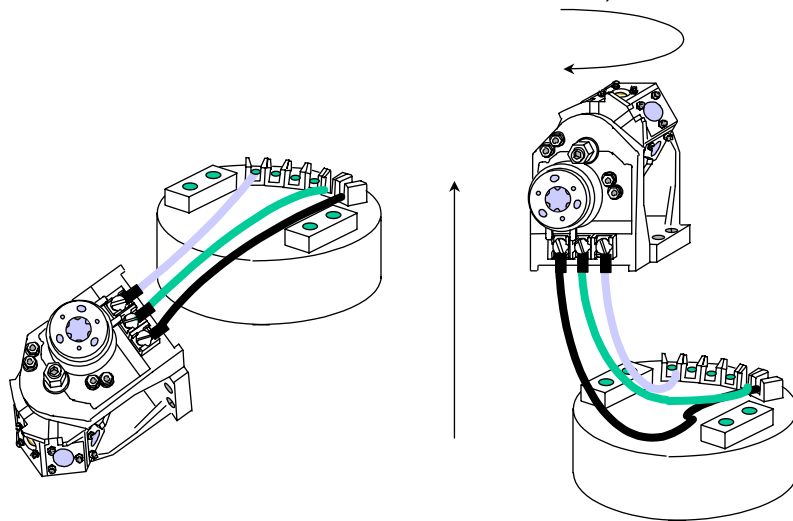

Figure 4-7
- c. Run the wires across the flasher and install the other end of the WK-681 wiring kit to the flasher's terminals *from the inside*, as shown in Figure 4-7. Then turn the lampchanger 180 degrees as you place it on the flasher so that the terminals are opposite each other with the wires under the bracket (note: the wires must pass through the 250mm's bracket, so wire it with the bracket on the flasher).